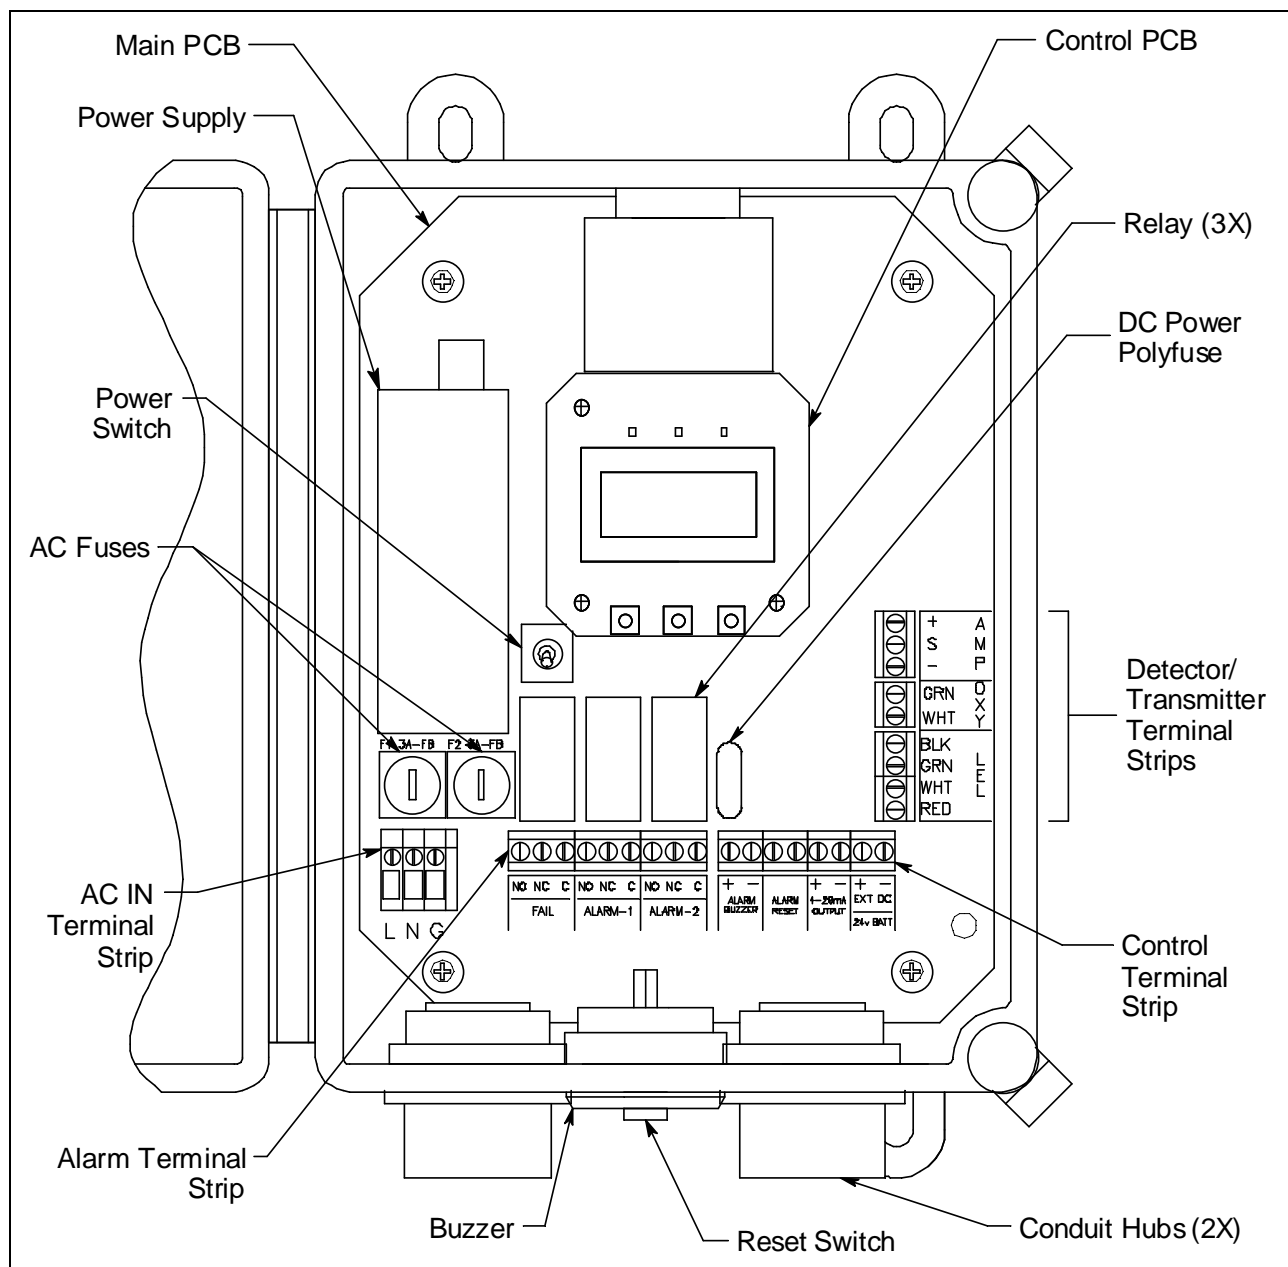

Figure 1: Beacon 110 Component Location
- **Alarm Terminal Strip.** The 9-point alarm terminal strip is located along the bottom edge of the main circuit board to the right of the AC in terminal strip (see Figure 1). It facilitates wiring external alarm devices (horn, strobe, etc.) to the alarm relay contacts and includes common (C), normally closed (NC) and normally open (NO) terminals for fail, alarm 1, and alarm 2.
- **Controller Terminal Strip.** The 8-point controller terminal strip is located along the bottom edge of the main circuit board to the right of the alarm terminal strip (see Figure 1). The controller terminal strip facilitates various internal and external wiring connections. Table 3 lists the function of each terminal.
- **Detector/Transmitter Terminal Strips.** Three adjacent terminal strips are located along the right side of the main circuit board above the controller terminal strip (see Figure 1). These three terminal strips facilitate wiring connections to a detector or a 4 - 20 mA transmitter. The lower 4-point terminal strip is labelled **LEL** and is used to wire a combustible detector. The middle 2-point terminal strip is labelled **Oxy** and is used to wire an oxygen detector. The top 3-point terminal strip is labelled **AMP** and is used to wire 4 - 20 mA transmitters or direct connect preamp type detectors. Although terminal strips are present for various types of detectors, only one detector head at a time may be wired to the Beacon 110.
The power switch is located to the right of the power supply and above the relays (see Figure 1 on page 8). The power switch turns the incoming AC power source on and off at the Beacon 110. When the switch is up, the power switch is on.
The Beacon 110 includes three active status LEDs that are located above the display (see Figure 1 on page 8). Two LEDs, labelled RX and TX, to the right of those described below, are not active.